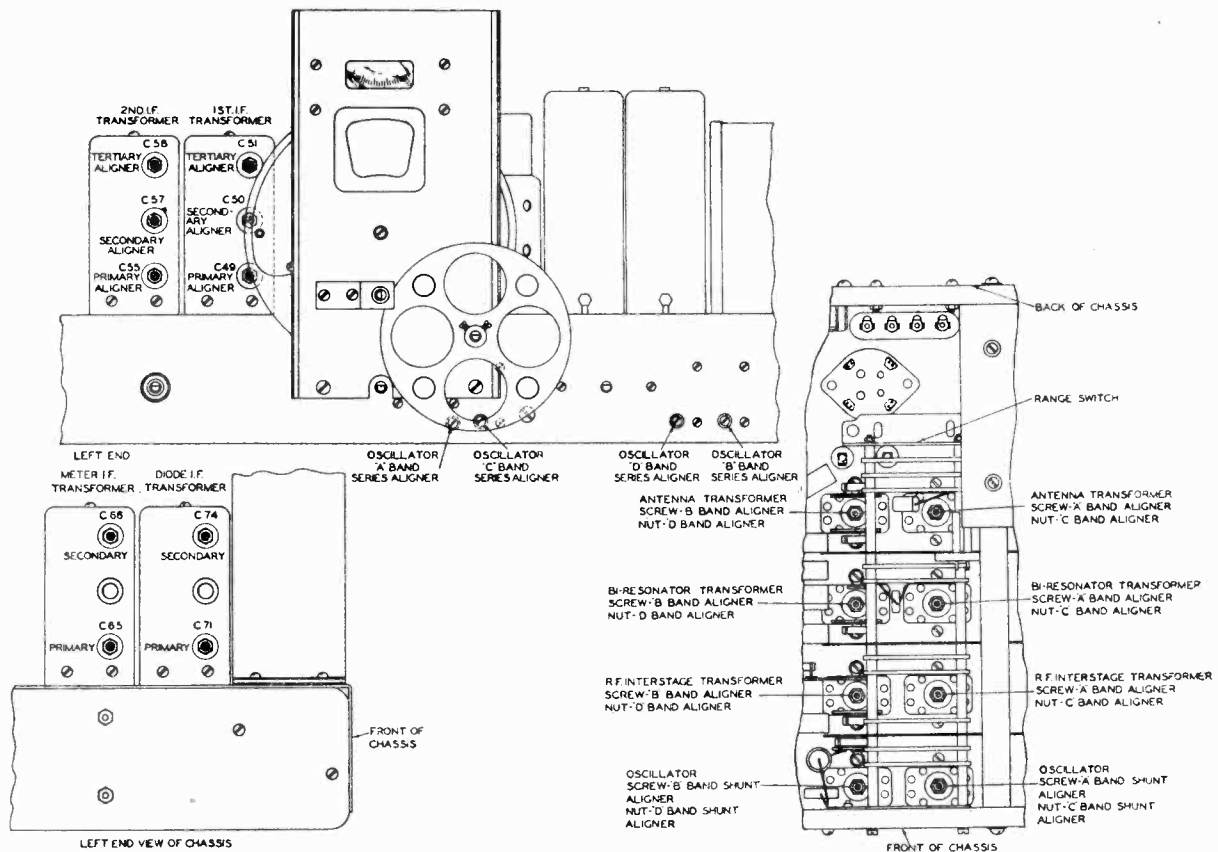

Fig. 5. Showing the Location of the Various Aligning Capacitors. For all R. F., I. F., and Tertiary Circuits.
Noting the various designated aligning capacitors shown in Figure 5, proceed in the following manner for aligning the radio frequency and meter circuits.
- (a) Now, note from Figure 5, the aligning capacitors C-74 and C-71, and adjust these capacitors in the order given for maximum output reading on the output meter.
When the R. F. and I. F. circuits are carefully aligned, operate the high fidelity control to the high fidelity position (maximum clockwise rotation). Now note from Figure 5 the location of the aligning capacitors in each tertiary circuit. Then, with the signal generator still set at the intermediate frequency, and its lead connected to the grid cap of the 6A7 tube, adjust these capacitors. Adjust the first I. F. tertiary aligning capacitor, C-51, until a minimum reading is obtained on the output meter. Then, adjust the second I. F. tertiary aligning capacitor, C-58, in the same manner.